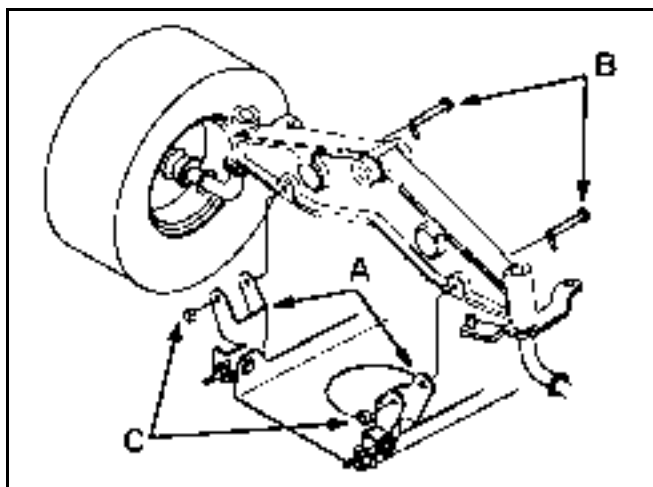

Figure 214
- Remove the bolts and lock nuts and pull the two mower pivot mount brackets down from the front axle (Figure 214).